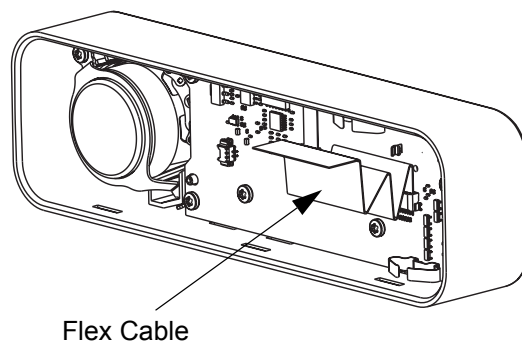

Figure 5-30 Flex Cable Assembly
8. Assemble the flex cable to the mating connector on the control head board, making sure it is fully seated as shown in Figure 5-30.